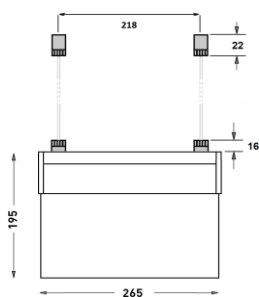

Figure 2: Suspended Mounting (SUMA)
- a) For Suspended Mounting: Mount 2 mounting brackets to the ceiling according to the dimensions shown in Figure 2 and mount the luminaire to these brackets with suspension wire.